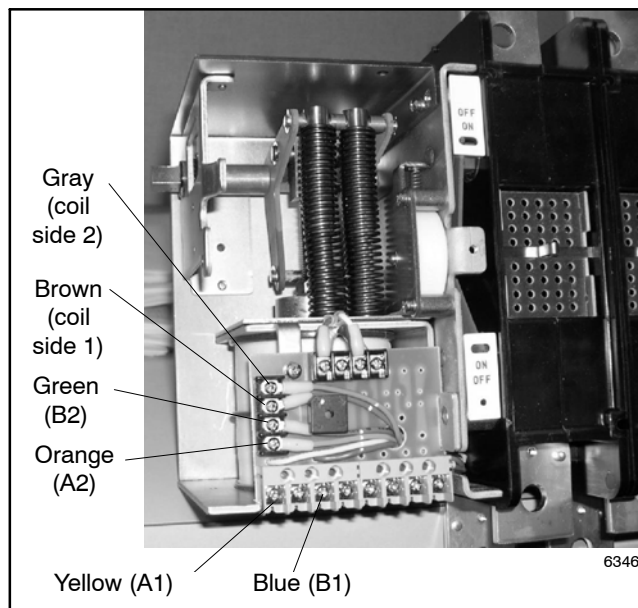

Figure 5-13 400 Amp Contactor Assembly, Cover Removed
1. Remove the cover from the electronic section of the contactor assembly and disconnect the brown and gray coil leads. See Figure 5-13.
11. After testing, disconnect both sources and manually operate the switch to the normal position. Reconnect the coil leads to the terminals shown in Figure 5-13. Replace the cover on the electronic section of the contactor assembly. Secure the ATS enclosure door before reconnecting power.
2. Remove the cover from the electronic section of the contactor assembly. See Figure 5-13.
If a control switch does not operate as required, check the connections before replacing the switch. See Section 7.6 for instructions to separate the electronic and mechanical sections of the contactor assembly. See Figure 7-26 for the control switch location. Before disconnecting the switch leads, see Figure 5-13 and note the lead colors for reconnection of the new switch.